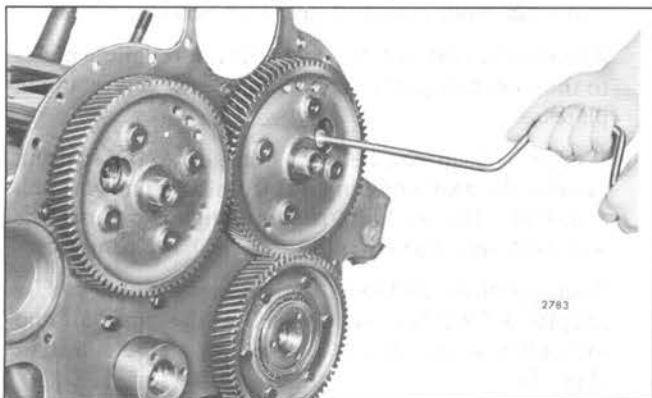

Fig. 4 - Removing or Installing Camshaft End Bearing Retaining Bolts
16. Rotate the camshaft gears as required to reveal the camshaft end bearing retaining bolts. Then, remove the bolts (Fig. 4).